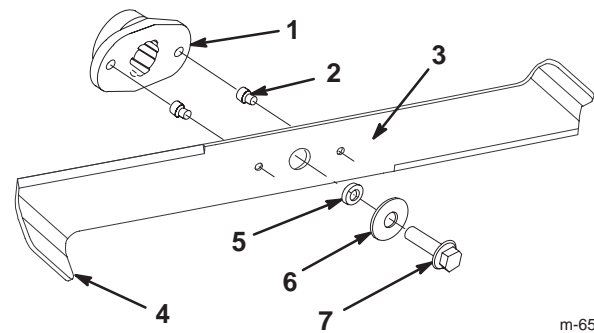

Figure 35
2. Inspect the cutting edges (Fig. 35). If the edges are not sharp or have nicks, remove the blades and sharpen them; refer to Sharpening the Blades on page 34.
3. Inspect the blades, especially the bent edges (Fig. 35). If you notice any wear or damage in this area, immediately install new blades.
4. If the shear pins are broken, replace them immediately (Fig. 35).
3. Remove the bolts, washers, and blades (Fig. 35). Wedge a block of wood between each blade and the mower to lock the blade when you are removing each bolt.
1. Install the blades, washers, and blade bolts (Fig. 35).